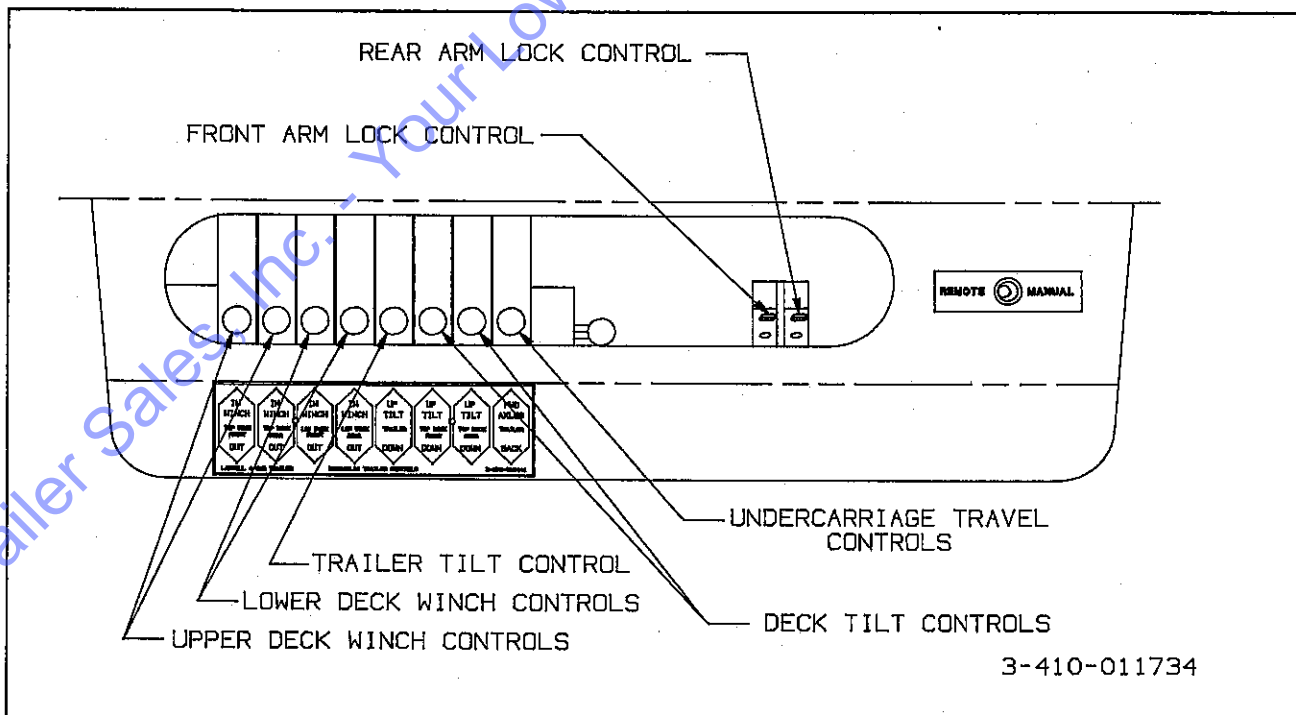
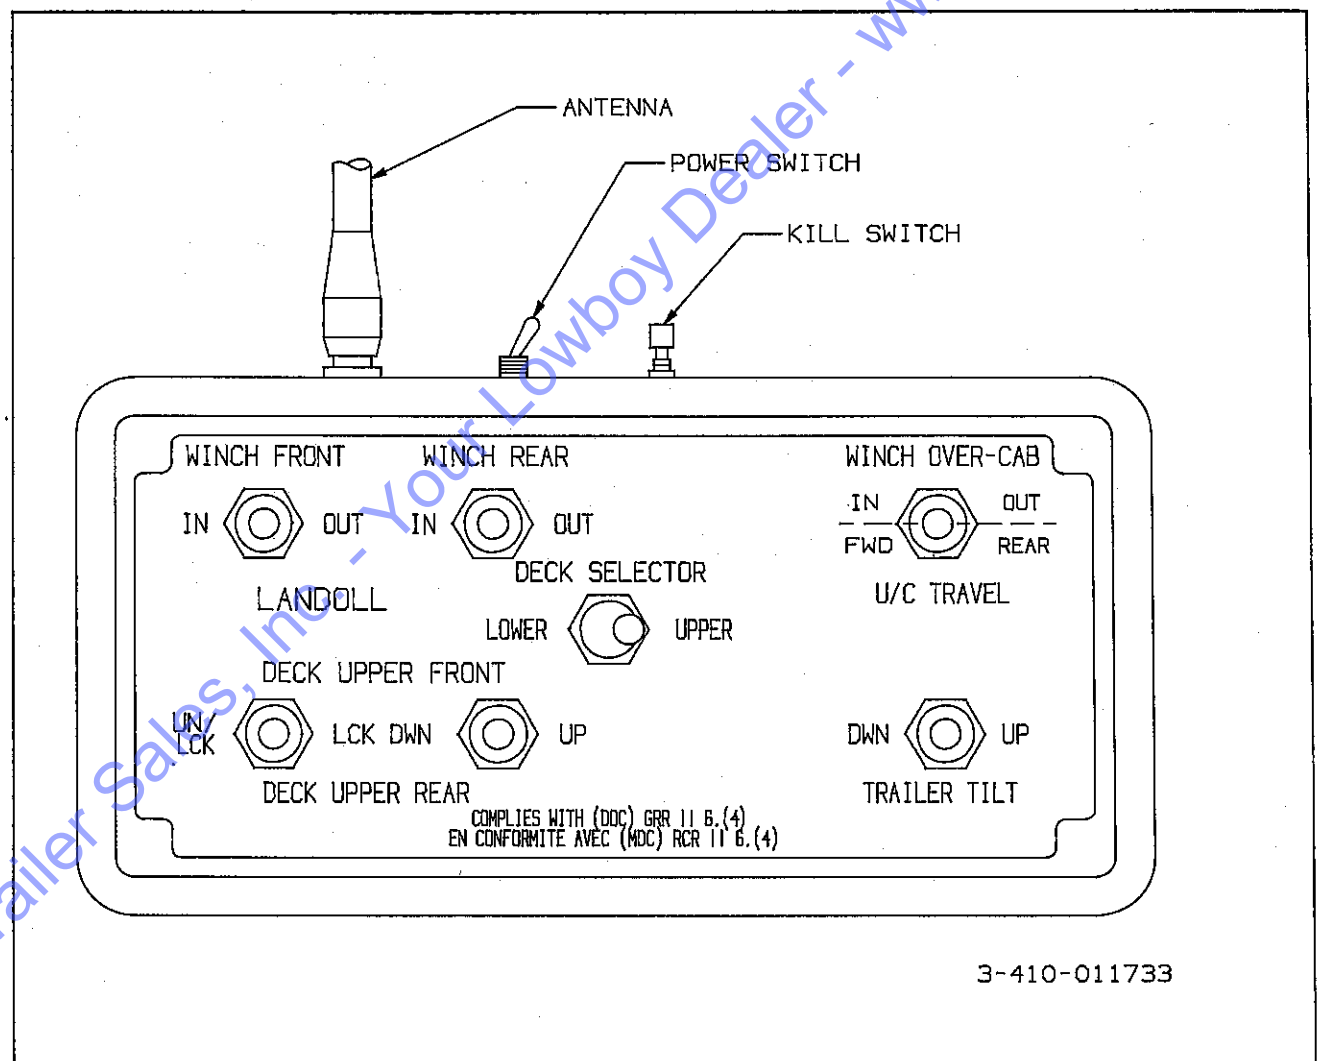

Figure 3-2 Hydraulic Control Levers
Figure 3-4 Remote Control
**3-1.2** The king pin plate should be the same height as, or slightly lower than, the latch area of the fifth wheel plate of the tractor. If necessary, connect the tractor hydraulic lines. Use the **TILT TRAILER** lever (see **Figure 3-2**) to raise or lower the kingpin plate sufficiently to allow proper coupling. Drain all air and moisture from the tractor air brake system in accordance with the tractor manufacturer's instructions.
**3-4.1** While hydraulic power is operating, raise the front end of the semitrailer with the **TILT TRAILER** lever (see **Figure 3-2**) until weight is off the landing gear. Raise landing gear. Secure each leg with a park stand retaining pin in fully retracted position before transporting.
**3-9.2** The WINCH hydraulic levers (see Figure 3-2) are located on the hydraulic control panel or the remote control (see Figure 3-4) if present. It is a three position control:
3-10.1 The power switch is located on the top of the box and must be turned on for the the remote control to operate. (See Figure 3-4.)
- a. Hold the Lock Control in the unlock position (see Figure 3-2) and joggle the TILT control for that arm until it unlocks.